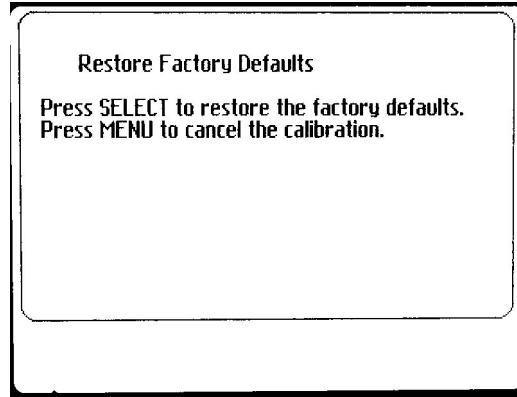

Figure 26 - Restore Factory Defaults (D.O.)
4. The PT2 will be on the RESTORE FACTORY DEFAULTS screen (Figure 26). Press SELECT again to erase all previous field calibration data from the sensor. The PT2 will return to the CHANNEL CAL menu screen.